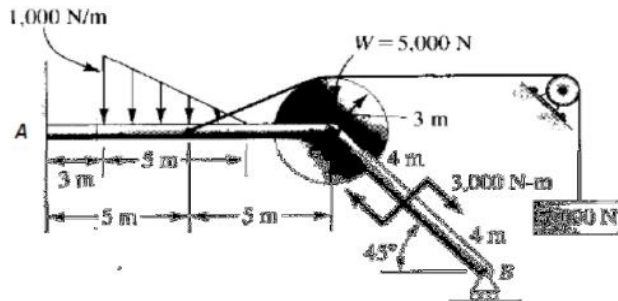

Figure 1
1. Find the supporting force systems at A and B (Fig. 1). The length of CB is 8 m.